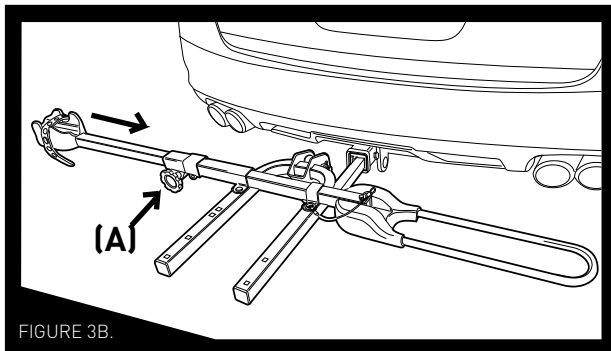

FIGURE 3B.
1. Loosen red tightening knob (Fig. 3B - "A").